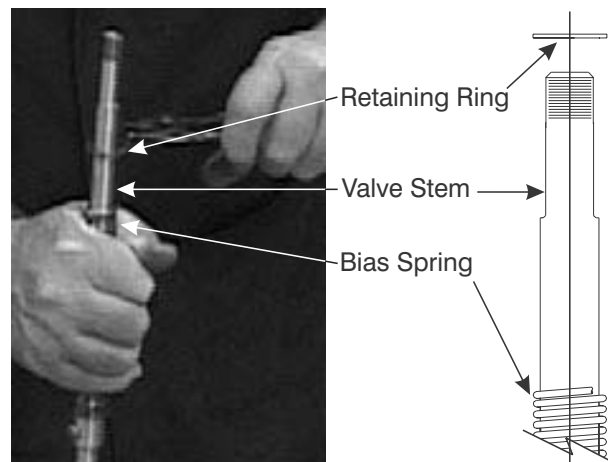

Figure 8-19. Remove Retaining Ring from Valve Stem
7. Depress Bias Spring (9) and remove Retaining Ring (8). See Figure 8-19.